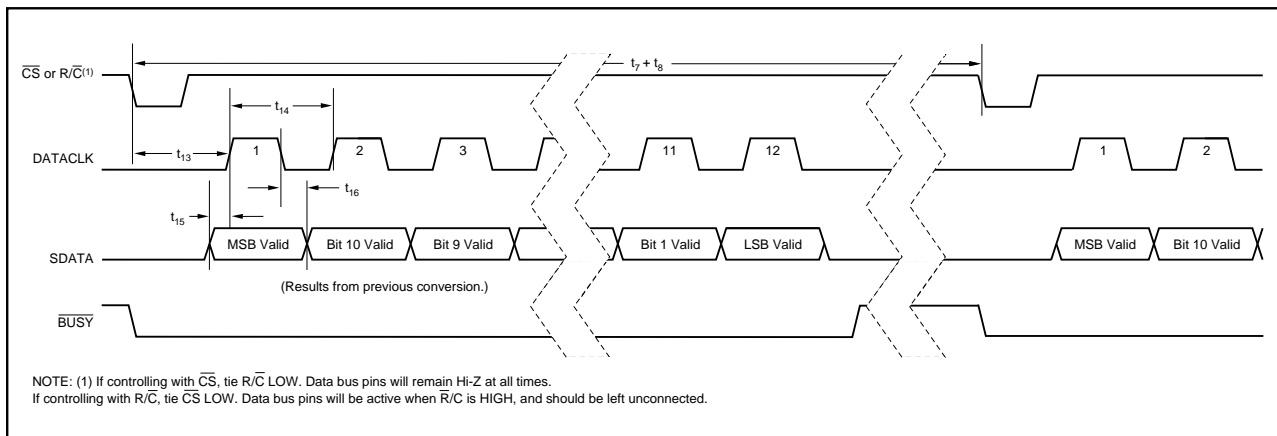

FIGURE 4. Serial Data Timing Using Internal Data Clock (TAG tied LOW).
NOTE: (1) See Figures 4, 5, and 6 for constraints on data valid from conversion "n-1".
To use the internal data clock, tie  $EXT/\overline{INT}$  (pin 8) LOW. The combination of  $R/\overline{C}$  (pin 22) and  $\overline{CS}$  (pin 23) LOW will initiate conversion 'n' and activate the internal data clock (typically 900kHz clock rate). The ADS7806 will output 12 bits of valid data, MSB first, from conversion 'n-1' on SDATA (pin 19), synchronized to 12 clock pulses output on DATACLK (pin 18). The data will be valid on both the rising and falling edges of the internal data clock. The rising edge of  $\overline{BUSY}$  (pin 24) can be used to latch the data. After the 12th clock pulse, DATACLK will remain LOW until the next conversion is initiated, while SDATA will go to whatever logic level was input on TAG (pin 20) during the first clock pulse. Refer to Table VI and Figure 4.